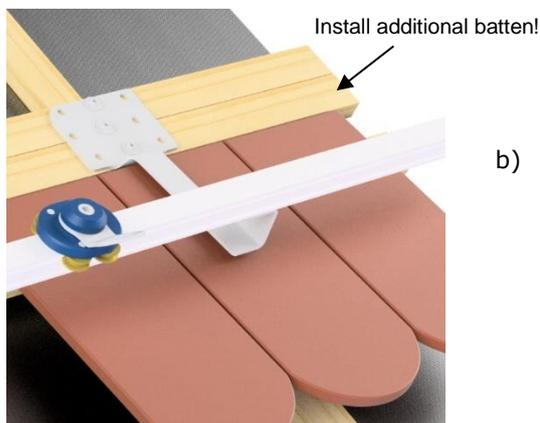

Fig. 2
b) Bracket **SD-B** (plain tile roof): see fig. 2